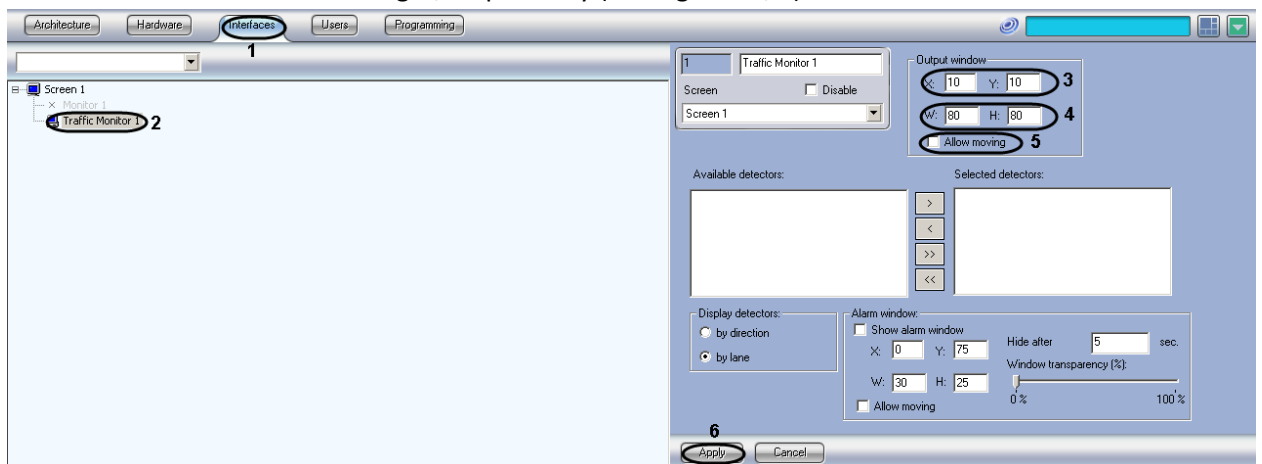

Fig. 7.7-1 Setting up the Traffic Monitor window position
1. Open the Interfaces tab in the System Settings window (see Fig. 7.7-1, 1).
2. Select the Traffic Monitor object in the object tree (see Fig. 7.7-1, 2).
3. By default, the Traffic Monitor window is located in the middle of the screen, with the following upper left corner coordinates: X = 10, Y = 10. To change its position, enter the coordinates in the X and Y fields, as a percentage of the screen width and height, respectively (see Fig. 7.7-1, 3).
4. By default, the Traffic Monitor window takes 64% screen space (80% of the width and height of the screen). To change the window size, enter the values in the W and H fields, as a percentage of the screen width and height, respectively (see Fig. 7.7-1, 4).
5. By default, the Traffic Monitor window cannot be freely moved around the screen. To allow free movement of the window, check the Allow moving checkbox (see Fig. 7.7-1, 5).
6. Click Apply (see Fig. 7.7-1, 6).